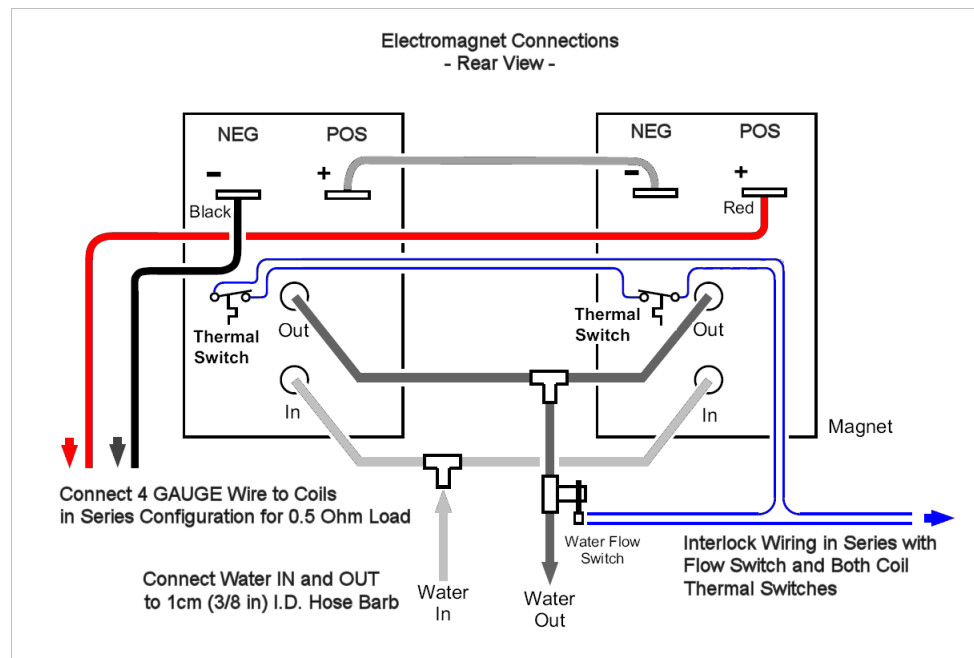

FIGURE 2-2 Electromagnet connections
- Connect the power supply cables to the terminal blocks on the rear of the coils. The Electromagnet is wired for a nominal 0.5 Ohm Series load. In addition to the Positive and Negative terminals, one jumper wire is required for the Series connection between the two coils, as shown in figure 2-2.
Typical coil wiring is shown in FIGURE 2-2. Water inlet and outlet are also shown. The direction of the B field is from Left to Right, when facing the magnet from the front.
The wiring in FIGURE 2-2 assumes coils wound in a certain direction. If you wire the magnet and get a zero field at the center, the coils are wound backwards. You must reverse both of the leads on one coil.
The magnet coils in FIGURE 2-2 are shown connected in series (0.5).